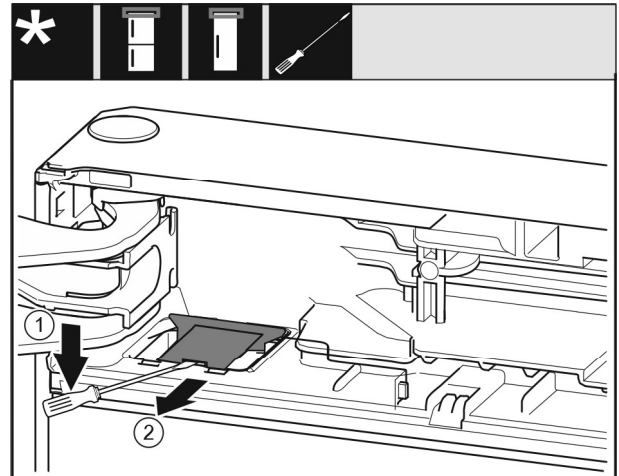

Fig. 11
- ▶ Use a screwdriver to snap out the cover Fig. 11 (1).
- ▶ Pull out the cover Fig. 11 (2).